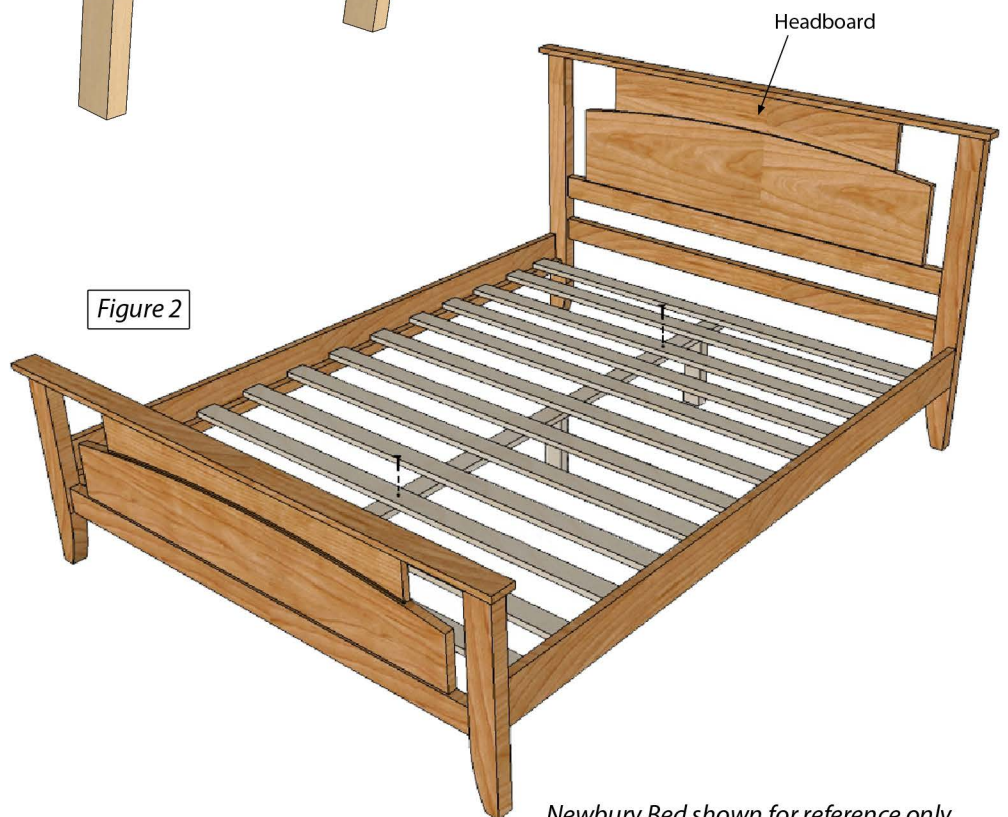

Figure 2
- 2) Center the support assembly under the bed slats. Make sure that the leg closest to the end of the support assembly is on the headboard end of the bed. (Figure 2)
- 3) Use the **2 – 1 1/2" Short Screws** to attach two of the bed slats to both ends of the Support Rail. (Figure 2)